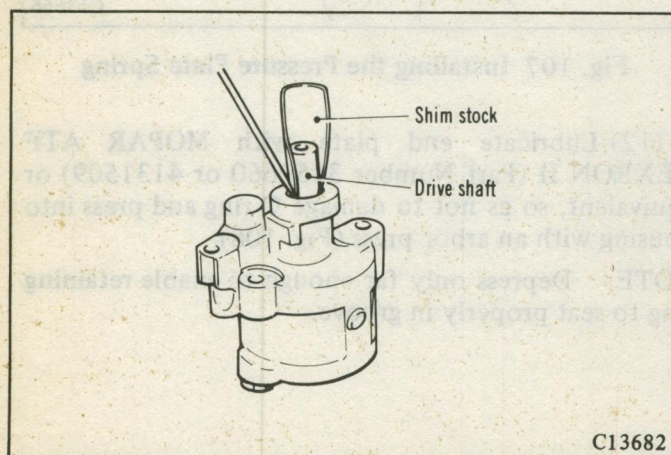

Fig. 109 Cutting the Drive Shaft Seal
(1) Remove the pump pulley as previously described, then bend a piece of 0.12 mm (.005 in.) shim stock (approximately 63.5 mm (2.5 in.) long—into a cylindrical shape, then push the shim stock past seal until it bottoms in pump body (Fig. 109).
(2) Cut metal body of seal with a small chisel as shown in Fig. 109.